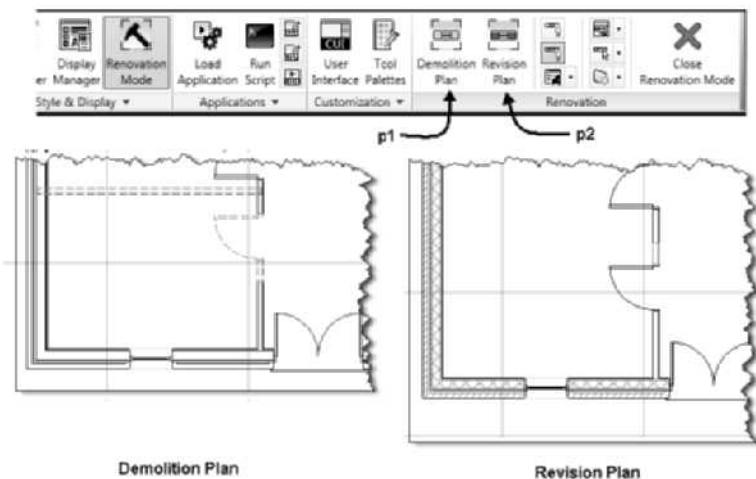

FIGURE 1.67 Demolition and Revision Plans created with the Renovation Mode
10. Choose the Demolition Plan of the Renovation panel shown at **p1** in Figure 1.67 to open the **Activation of a Demolition Plan**. Verify that the **Renovation_Medium Detail** is specified for the Name of Renovation Display Configuration to activate. Choose **OK** to dismiss the dialog box and view the demolition plan as shown at left in Figure 1.67.
12. Choose **Close Renovation Mode** of the **Renovation** panel as shown at right in Figure 1.67.